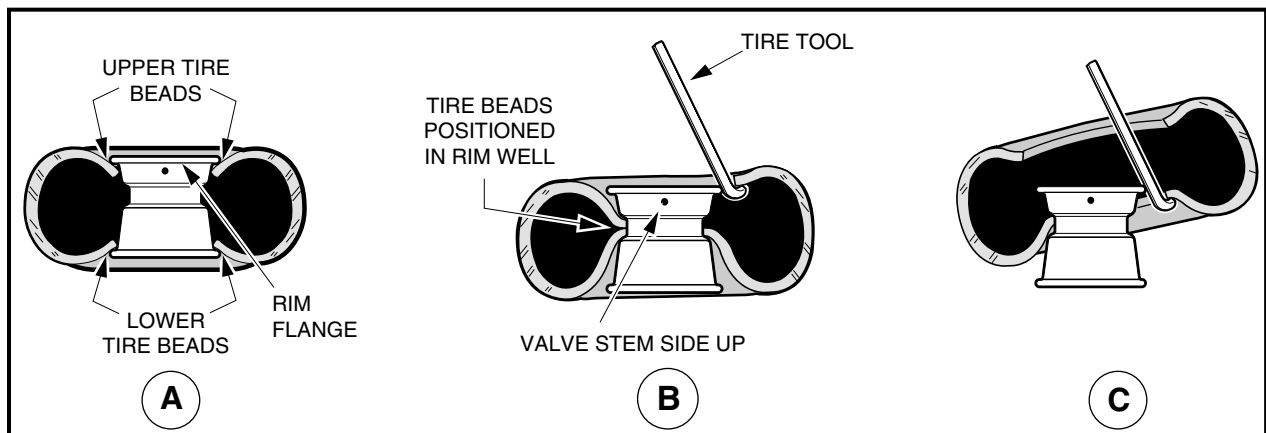

Figure 8-1 Tire Removal
- 3.1. If a tire machine is not available, loosen both tire beads by applying pressure to the tire side walls and pushing the tire bead away from the rim flange and into the rim well (**Figure 8-1, Page 8-3**).
- 3.2. With the valve stem side of the wheel up, use a tire tool to carefully start the upper bead over the edge of the rim (**Figure 8-1, Page 8-3**).
- 3.3. When the top bead is free of the rim, pull the bead from the bottom side of the rim up into the upper part of the rim well. Insert the tire tool under the lower bead as shown (**Figure 8-1, Page 8-3**) and carefully pry the lower bead over the rim flange.